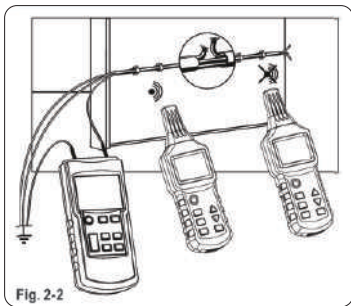

Fig. 2-2
In this example, please take a piece of a shielded cable with a cross sectional area of 1.5mm². Provisionally install 5m of this cable along the wall with nail clips at eye level as surface mounting. Make sure that the wall is accessible from both sides. Create an artificial interruption at a distance of 1.5m before the line terminal. The line terminals must be open. Strip the interrupted lead at the beginning of the light shielded cable and connect it via the test leads (provided) with terminal ⑩ of the transmitter. Connect terminal ⑪ of the transmitter to a suitable earth. All other cable leads must also be connected to the transmitter and the same earth (See Fig. 2-2). Switch on the transmitter via button ②, when the LCD screen of the transmitter displays the initial screen the buzzer will buzz. Press button ③ of the transmitter to enter the screen for setting transmitting level and then press up button ⑦ or down button ⑥ to select transmitting power level (Level I, II or III). After this level is set, press button ③ to exit. If you want to change the transmitting code, press button ⑤ of the transmitter for about 1 second and then press up button ⑦ or down button ⑥ to select transmitting code (F, E, H, D, L, C, 0 or A, with default F). Press button ⑤ to exit. Then, press button ④ to send information. At this moment, the concentric circles ⑦ on the LCD display will be gradually spread, and symbol ⑧ will display the transmitting code received by the transmitter itself, and symbol ⑨ will display the signal intensity. Press key ④ of the receiver to power on the receiver, when the LCD screen of the receiver displays the initial screen, the buzzer will buzz, and the receiver will enter the default "Automatic Mode". Move the probe of the receiver slowly along the cable to the interruption position, the symbol ③ of the receiver will display transmitting power level, ⑧ will display the code transmitted by the transmitter, ⑨ will display the dynamic signal intensity, and the speaker will change tone with the change in signal intensity.